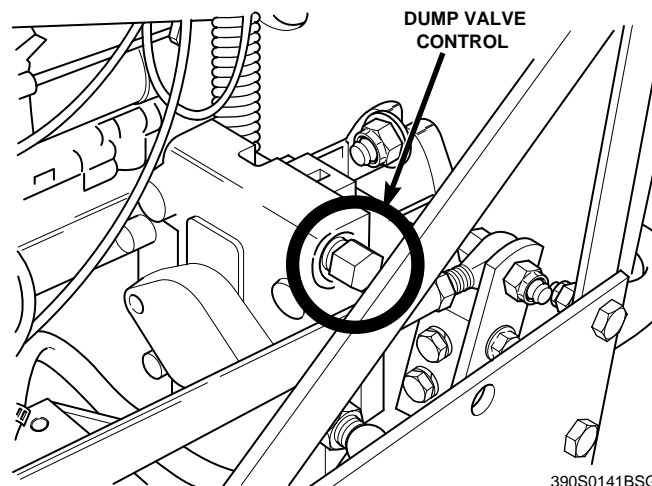

Figure 4-2 Dump Valve Control
13. **Dump Valve Control Levers (Figure 4-2).** Located on the hydraulic pumps, used to "free-wheel" the mower. Rotating the levers clockwise until they stop allows the unit to move under hydraulic power. The levers must be in this position during operation of the mower. Rotating the levers counter-clockwise allows the mower to be moved by hand (free-wheeling).